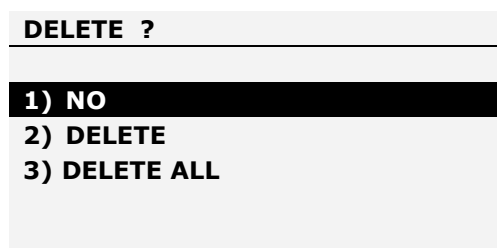

Figure 7b Memory Delete Menu
6. Pressing the ZERO key will access the DELETE menu (See Figure 7b)